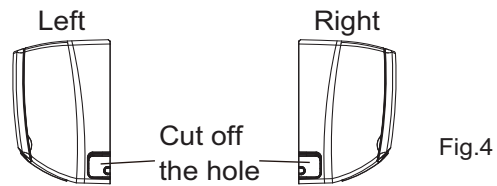

Fig.4
- (2) When selecting leading out the pipe from left or right, please cut off the corresponding hole on the bottom case.(As show in Fig.4)